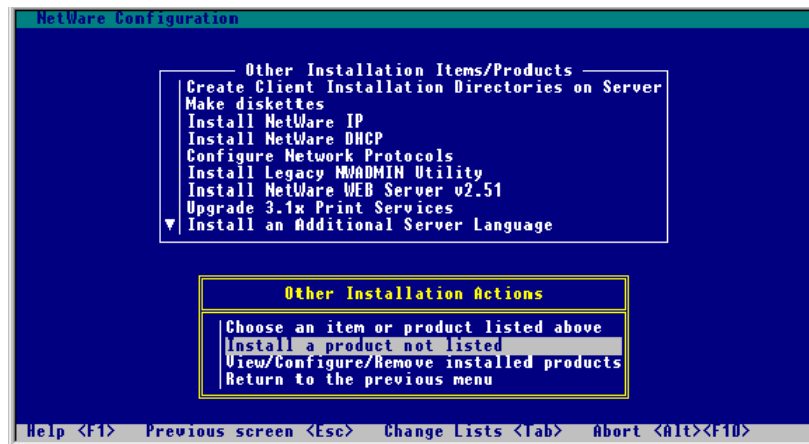

Figure 3-21. Product Options
- Choose the menu selection “**Product options**” and press **ENTER**. Figure 3-21 will display.